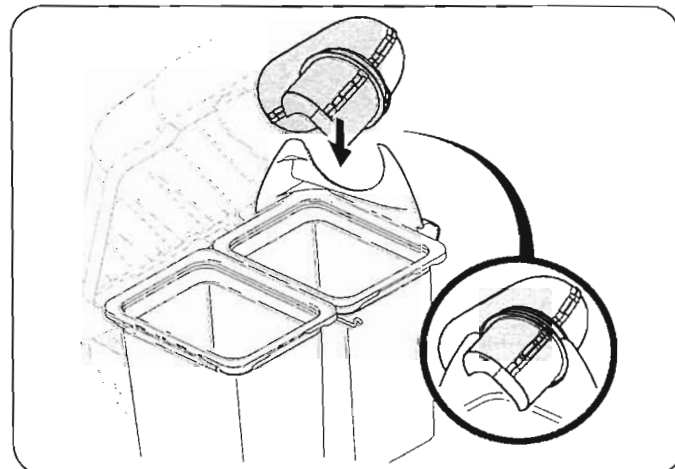

Figure 4-26
15. With the bagger cover open, install the upper chute over the chute adapter, and rest the top so that the chute support sits in the upper chute groove. See Fig. 4-26.